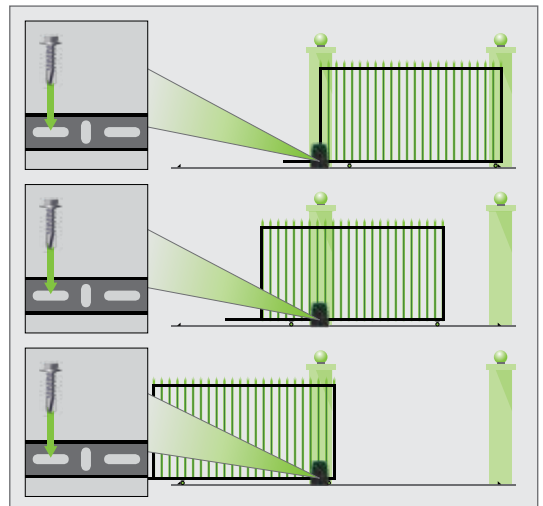

FIGURE 58
**Fit an additional fixing screw through the horizontal slots to secure the Rack to the gate directly above the Pinion when the gate is in the closed, pedestrian and open positions as shown in Figure 58.**